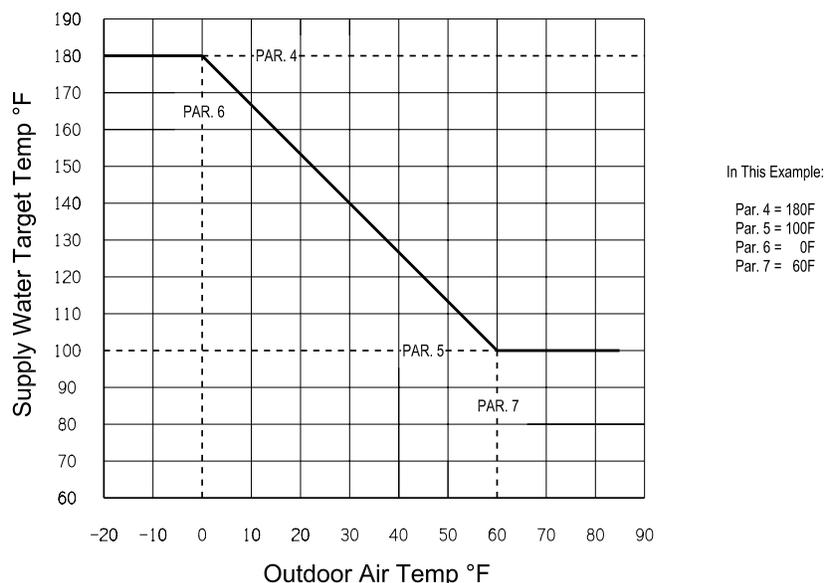

Figure 1.2 Adjusting Boiler Water Reset curve
2) Changing the boiler water reset curve - When an outdoor temperature sensor is connected to a BWC Series boiler, the MCBA will adjust the target boiler supply temperature based on outdoor temperature when the boiler is responding to a call for central heat. Figure 1.2 is a graph showing the target boiler supply temperature as a function of outdoor temperature. The curve shown in Figure 1.2 is that obtained with the factory set parameters. The shape of this curve may be changed by changing Parameters 4, 5, 6, and 7 as shown in Figure 1.2. Refer to Part I Section C for the procedure to change parameters.